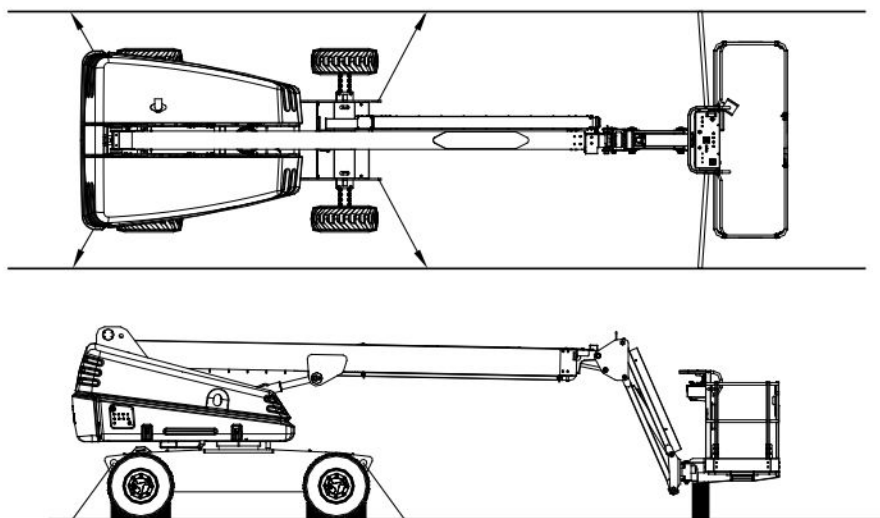

Figure 3-6. Tie-down Points
6. Anchor down MEWP to transport surface using tie-down points (refer to Figure 3-6).